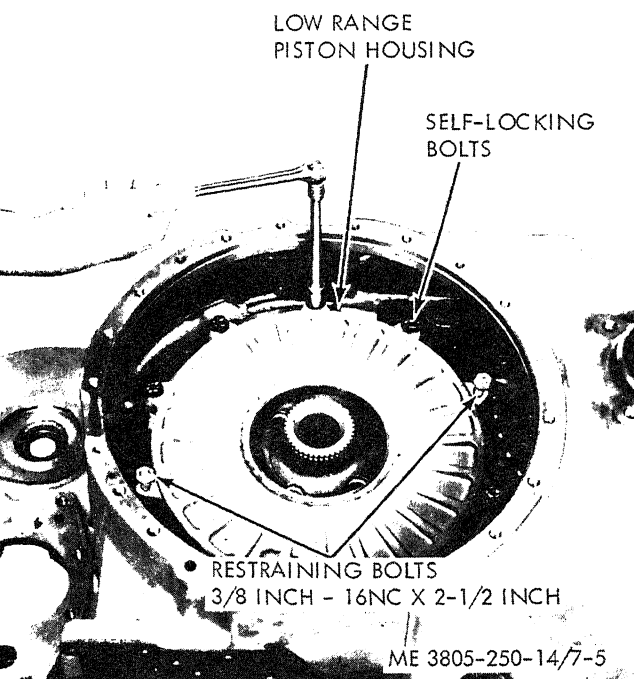

Figure 7-5. Low range clutch piston removal.
(14) Remove bolts (45) and lockwashers (46) securing rear cover (47) to the transmission. Remove plug (48), seal (49) and gasket (50) from the cover.
(15) Straighten the corners of lock tabs (52) and remove the six bolts (51) retaining the high range clutch piston housing. Using two screwdrivers, pry the piston housing assembly from the transmission.
(16) Depress piston return spring (54) and remove retaining ring (53). Remove spring (54), seal (55), piston (56), seal (57), ring expander (58) and bearing (59) from clutch housing (60). Drive bushing (61) from the piston housing if replacement is required.
(17) Remove the high range clutch hub assembly as a unit. Remove retaining ring (62) from the hub (70). Bend down corners of lock plates (64) and remove nuts (63), lock plates (64), bolts (65), washers (66), and clutch plates (67, 68, and 69) from the hub (70).
(18) Remove retaining ring (71) from the low range planetary carrier (83). Remove the transfer drive gear assembly (72), pull bearing (73) and press pins (74) from the gear.
(19) Remove two of the ten self-locking bolts (75), 180 degrees apart, from the low range clutch piston housing (76). Install two $\frac{3}{8}$ -16 NC x 2- $\frac{1}{2}$ inch restraining bolts in their place as shown in figure 7-5.